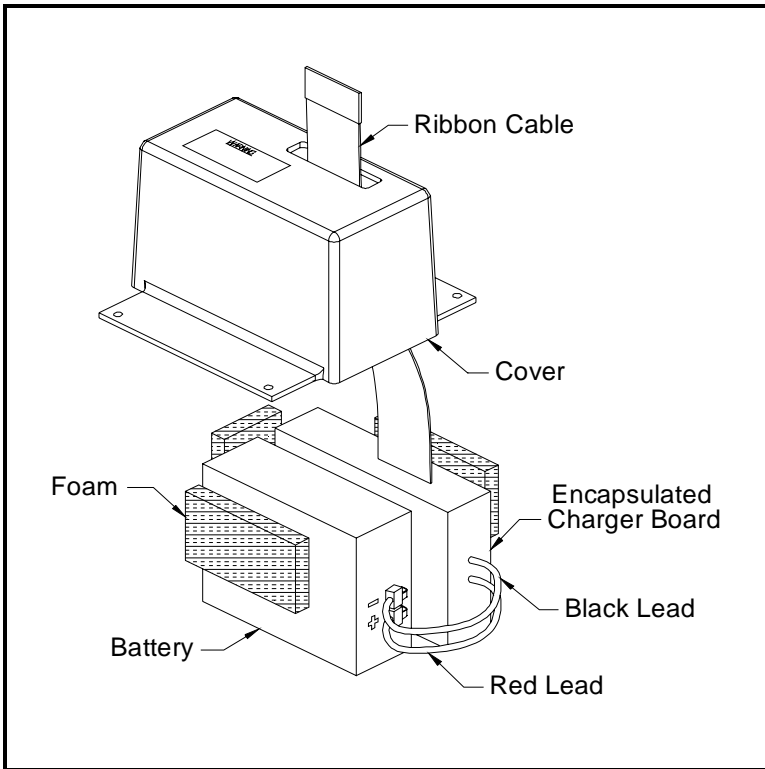
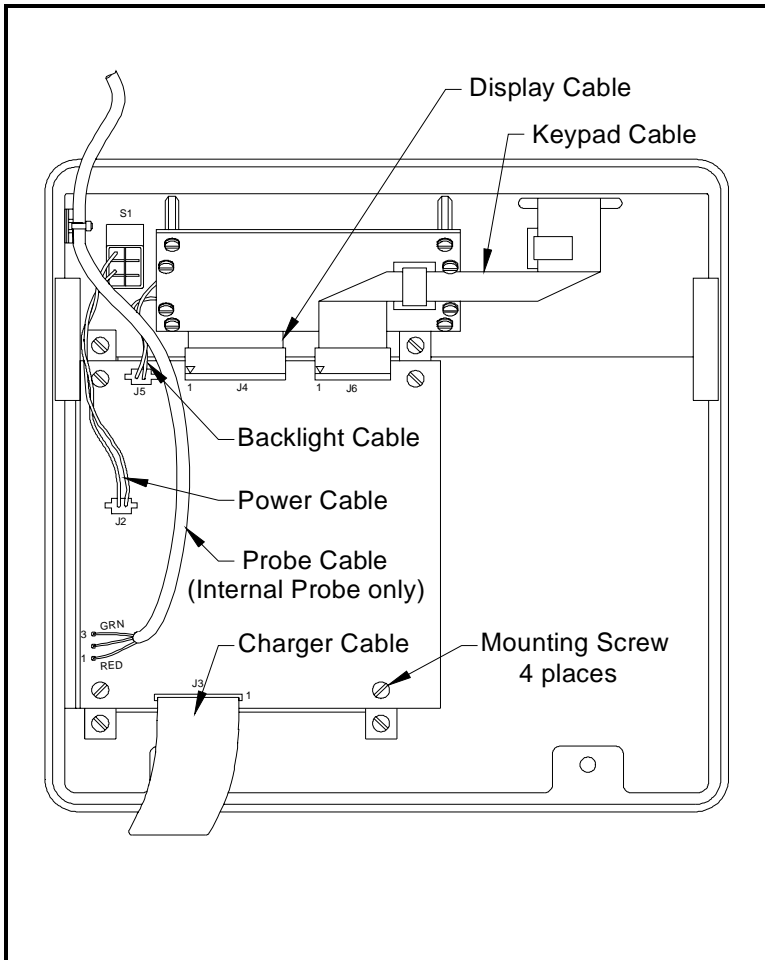

Figure 4-1: Battery Pack with Charger Board
Figure 4-2: Rear of PC Board - Cable Connections
Refer to Figure 4-1 on page 4-11 and complete the following steps to remove the old battery:
2. Disconnect the ribbon cable that connects the encapsulated charger board to connector J3 on the back of the main printed circuit board, which is mounted in the cover of the Series 35 IS. Refer to Figure 4-1 on page 4-11 and Figure 4-2 on page 4-15.
Refer to Figure 4-1 on page 4-11 and Figure 4-2 on page 4-15 and use the following steps to install the new battery:
See Figure 4-2 on page 4-15 to locate the cable connections on the back (non-component side) of the main printed circuit board.
IMPORTANT: Before disconnecting the ribbon cables, mark the side of each cable that is near pin 1 of its circuit board connector. Pin 1 is clearly labeled on the circuit board for J3, J4 and J6. See Figure 4-2 (above).